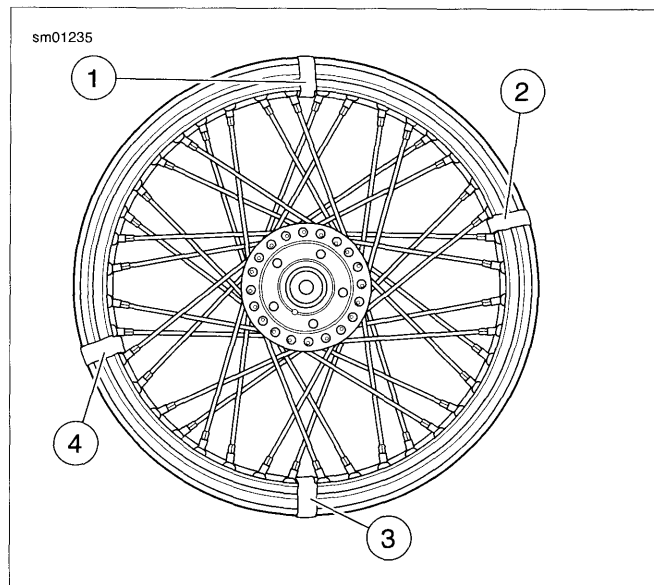

Figure 2-37. Marking Spoke Groups
1. See Figure 2-37. Place a piece of tape to mark the center of each group of four spokes as shown. The groups should be directly opposite one another and approximately 90 degrees apart. Using different colors of tape or numbering each group is helpful.